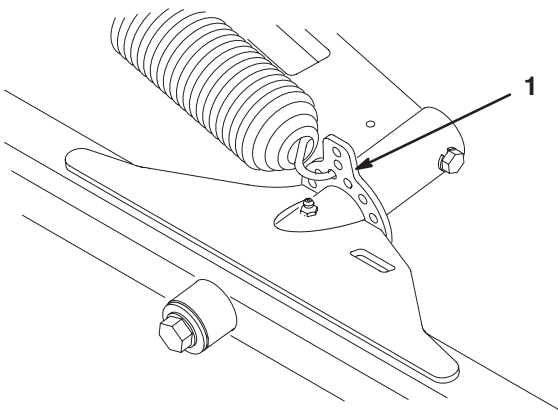

Figure 10
1. Hook the spring into the third hole from the top on the inboard side of both front cutting unit lift tabs and on the rear cutting unit lift tab (Fig. 10).